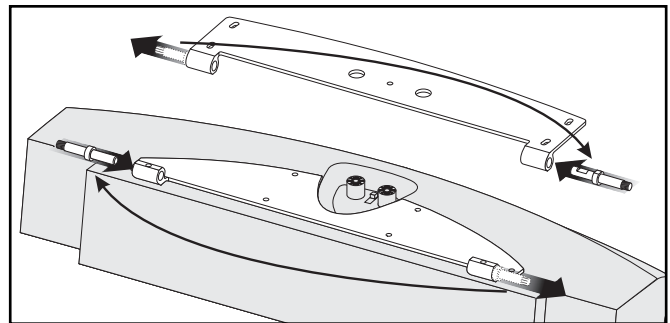

Figure 10. Change hinge pin locations.
- 5 Move the wall bracket hinge pin to the outside of the opposite hinge. Move the cabinet bracket hinge pin to the outside of the opposite hinge (see figure 10).